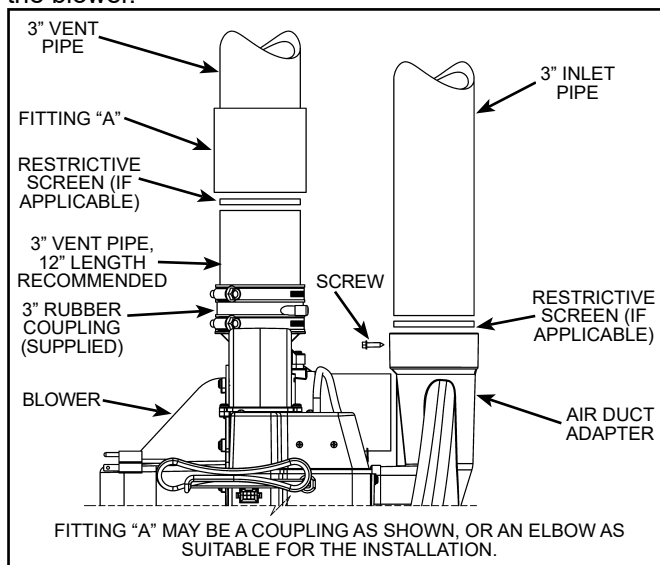

Figure 48.
1. The vent piping connects into the rubber coupling located on the top of the blower assembly. This coupling includes gear clamps to connect the venting to the blower. See Figure 48.
Figure 48 shows heaters having 3" direct connection to the blower.